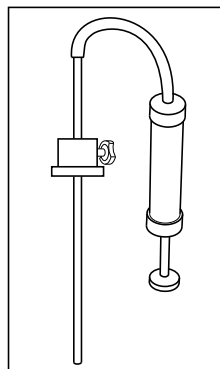

Fig. 1.24A
18. Front fork oil level gauge - 031 180 0 (Fig. 1.24A)